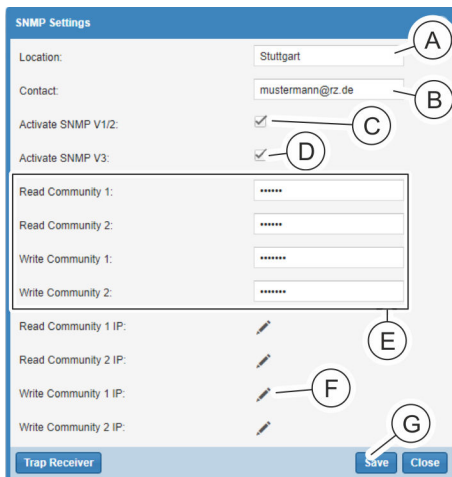

Fig. 136: “SNMP Settings” window
2. ➔ In the “SNMP Settings” window, enter the location (Fig. 136/A) and the contact (Fig. 136/B).
3. ➔ If necessary, click the “Activate SNMP V1/2” checkbox (Fig. 136/C).
4. ➔ If necessary, click the “Activate SNMP V3” checkbox (Fig. 136/D).
5. ➔ If necessary, enter an SNMP Read Community or SNMP Write Community (Fig. 136/E).
6. ➔ If necessary, click the pencil icon (Fig. 136/F) to configure SNMP access control.
10. ➔ Confirm the entry by clicking the “Save” (Fig. 136/G) button.